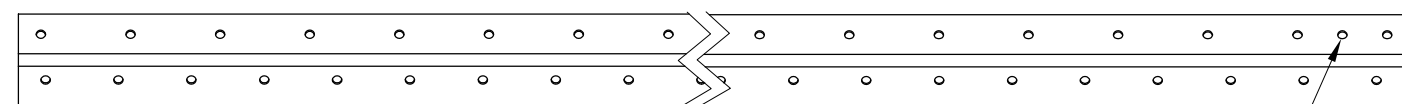
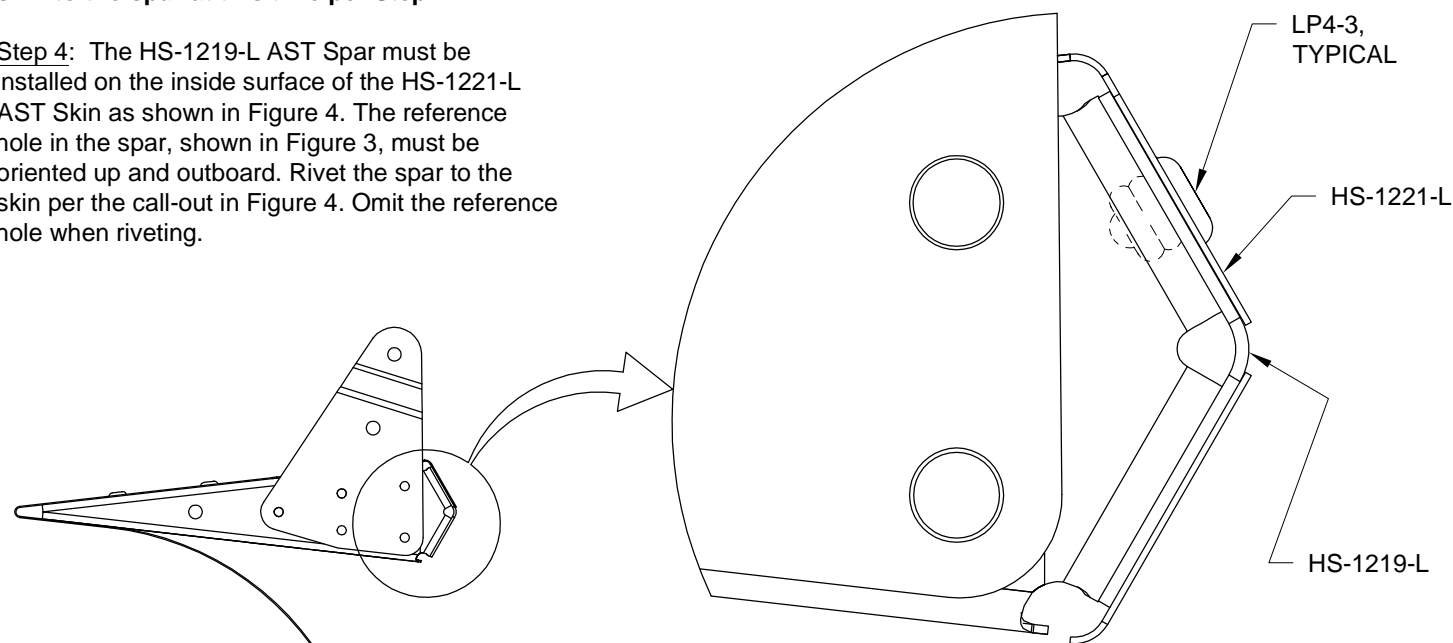

FIGURE 3:
FIGURE 4:
Step 4: The HS-1219-L AST Spar must be installed on the inside surface of the HS-1221-L AST Skin as shown in Figure 4. The reference hole in the spar, shown in Figure 3, must be oriented up and outboard. Rivet the spar to the skin per the call-out in Figure 4. Omit the reference hole when riveting.